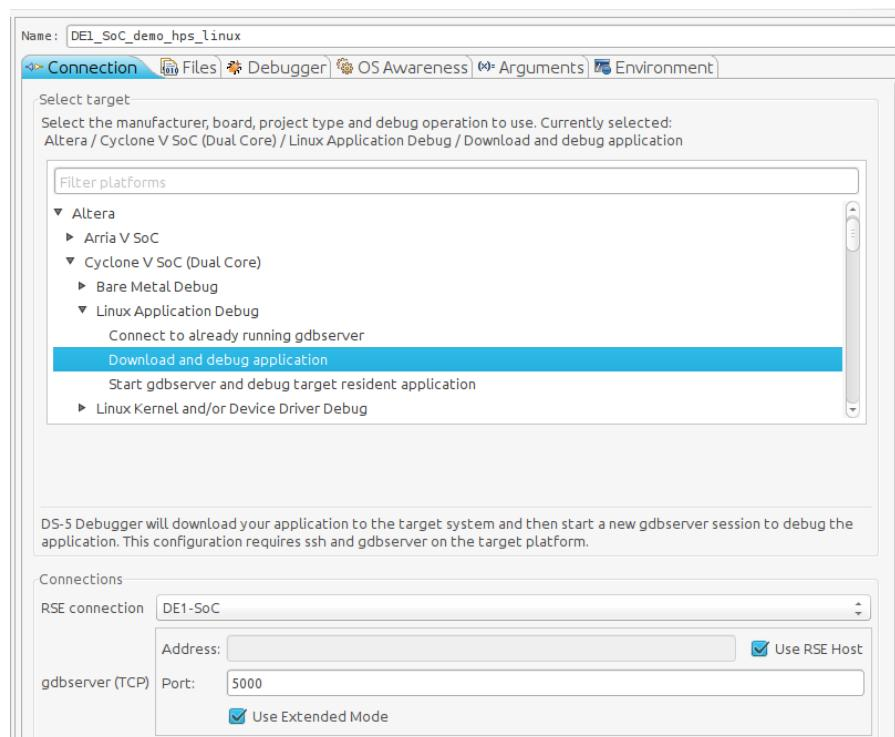

Figure 13-15. Debug Configuraton "Connection" Tab
- b. Set the “RSE connection” to “DE1-SoC”. This is the remote system connection we created earlier. You should have something similar to Figure 13-15.